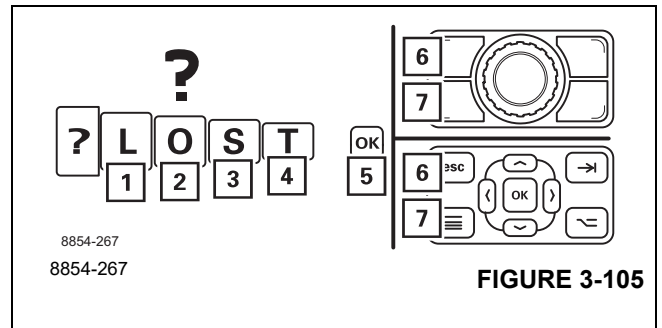

FIGURE 3-105
- Select and confirm the L-O-S-T password using Items 1 to 4 in (Figure 3-105).
- Confirm the entry with the symbol (5), (Figure 3-105).
You can cancel the entry at any time using the (6) or (7) buttons (Figure 3-105).